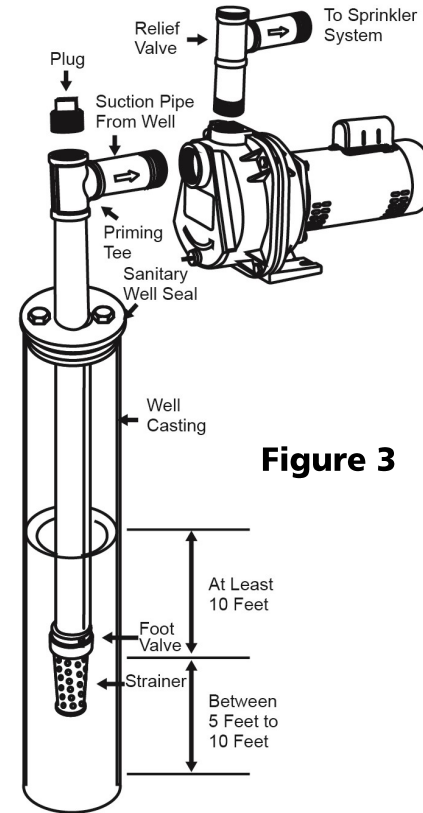

Figure 3
4. Install a priming tee with a plug on the suction pipe from the water source as shown in Figure 3. Install a union to allow the pump to be easily disassembled from the piping for easy servicing. **Make sure Teflon tape or pipe joint compound is used on all joints. The suction pipe should be at least 1 1/4"**